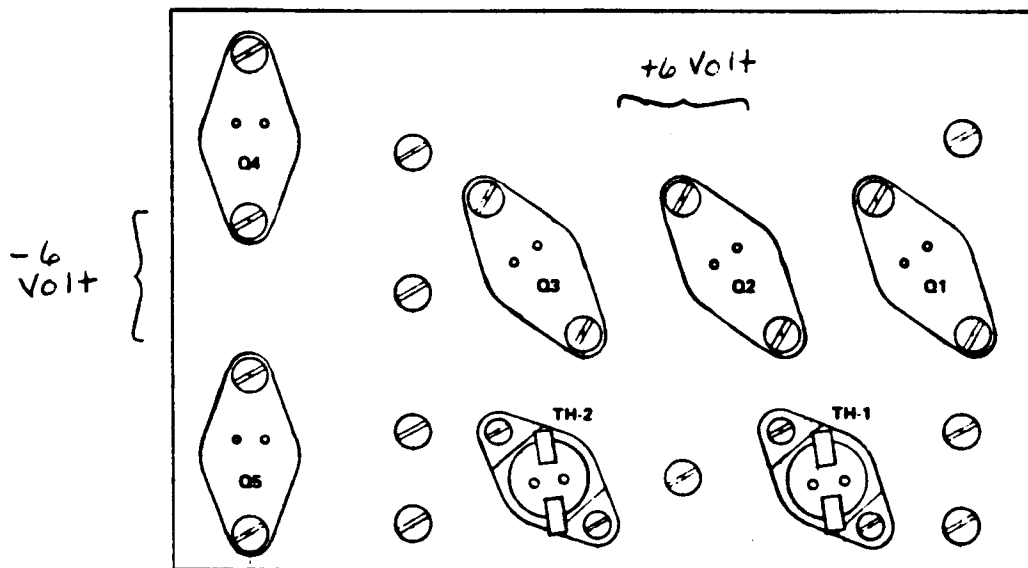

Figure 12 - Heatsink for ± 6 volt Pass Transistors
2. Heatsink for +6 volt pass transistors. (Figure 12)